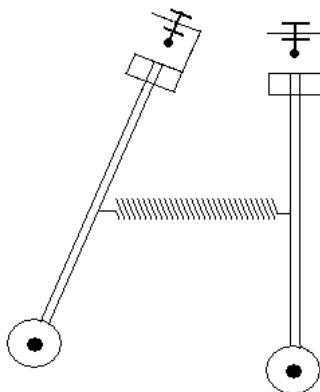

Fig. 2 Coupled pendulums
- Determine the angle of deflection geometrically with the help of a ruler (see Fig. 2) and match this with the corresponding output voltage.